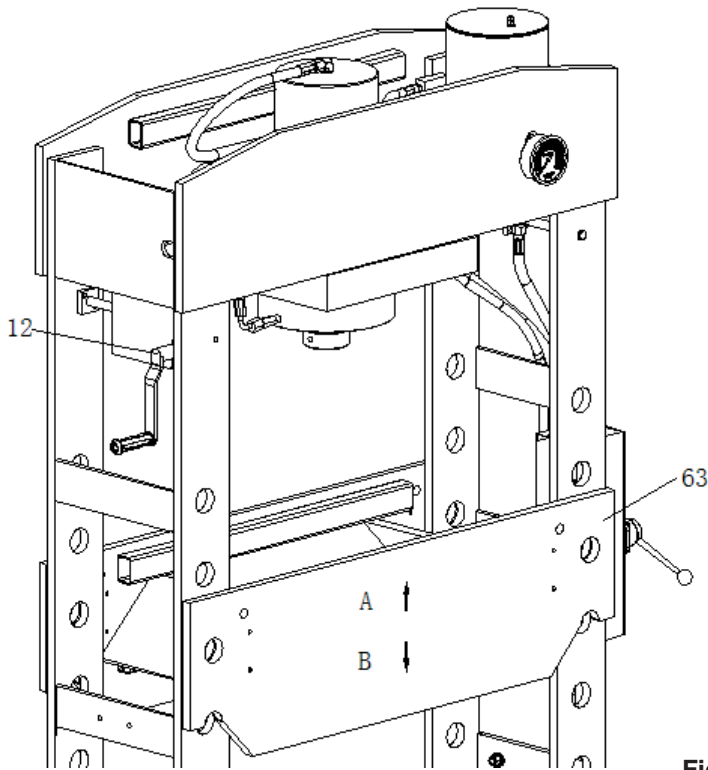

Fig.13
1. Assembling the Handle (12) to Hand wrench, turn the Handle(12) clockwise, then the Bed Frame (63)will move up(A) and turn the Handle(12) anticlockwise, the Bed Frame(63)will move down(B).(Refer to Fig.13)